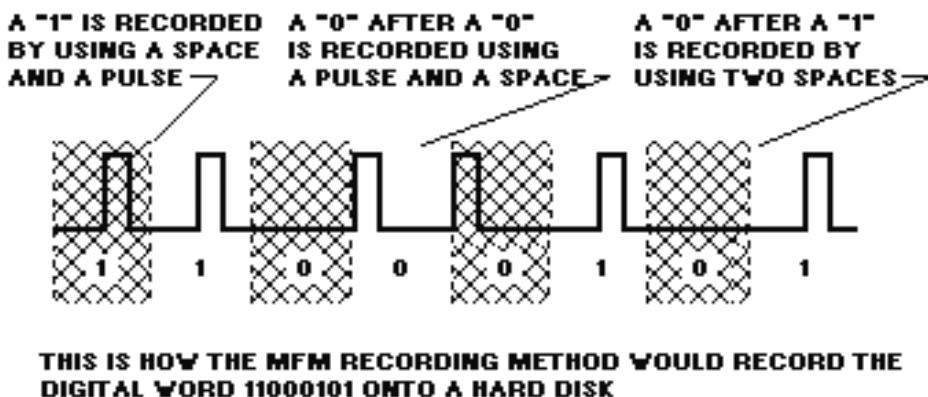

Figure 8-8.—Modified frequency-modulation (MFM) encoding.
2. It stores a digital "1" by generating a *no-pulse* and a *pulse* in the two pulse periods. It stores a digital "0" as either a *pulse and a no-pulse* if the last bit was a "0," or as two no-pulses if the last bit was a "1." Figure 8-8 shows this.